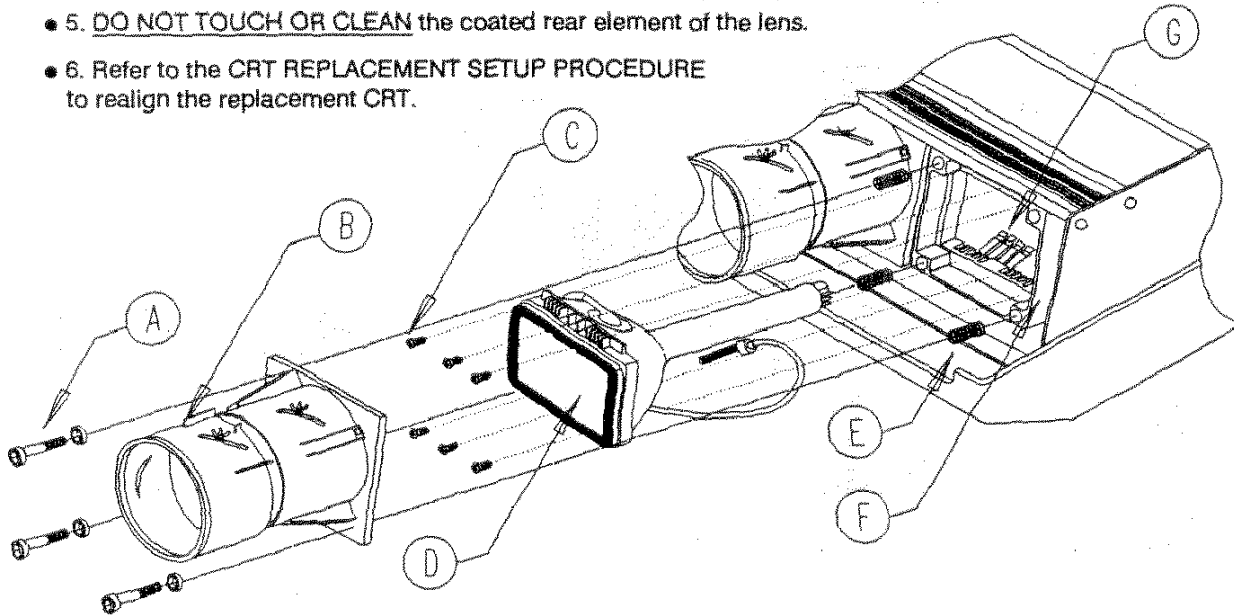

FIGURE 3-28. LENS, CRT REMOVAL
- A. Using your 3/16 lens adjustment tool, remove the three swivel screws and washers securing the lens assembly in place. Refer to Figure 3-28, Item A. **NOTE: DO NOT TOUCH** the coated rear element of the lens.
- STEP 5. Remove the 6 ea. phillips 10-32 CRT black retaining screws. Refer to Figure 3-28, Item C.
- STEP 6. With the appropriate protective eyeglasses and gloves on, remove the CRT (item D) from the coupler assembly (item F), while sliding the Deflection Yoke, Registration coils and Astigmator/centering rings and associated clamps off the neck of the CRT. **NOTE:** Take notice of the CRT to Coupler grounding fingers. Refer to Figure 3-28, Item G.